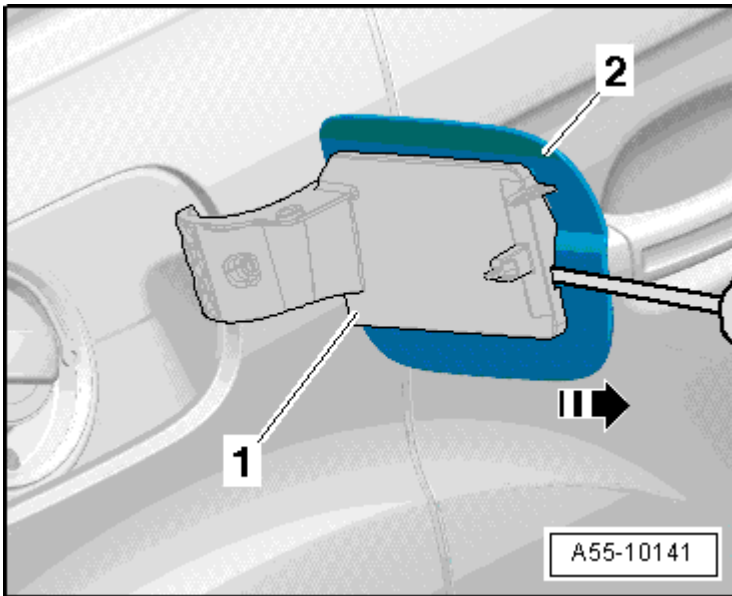

Fig. 25: Identifying Flap And Flap Mount
- Removing, refer to **Fig. 25**.
- Remove the cover for the fuel filler door, refer to **Fig. 25**.